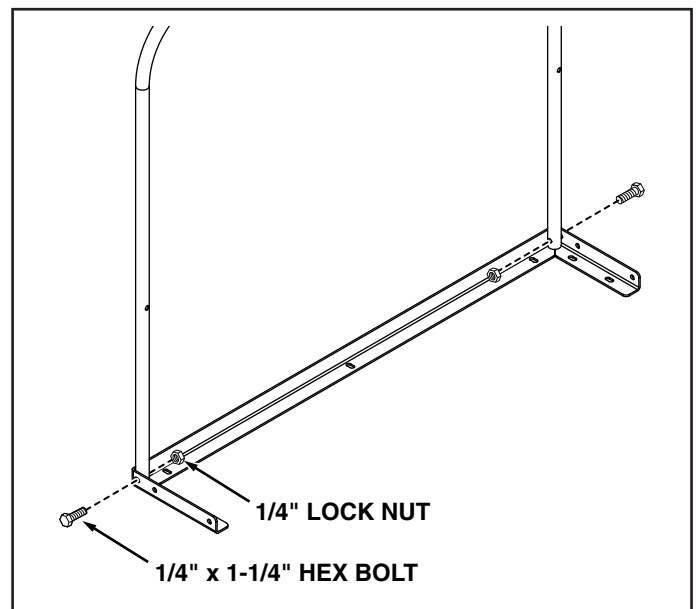

FIGURE 17
- Secure front support tube to top angle support using two 1/4" x 1-1/4" hex bolts and 1/4" lock nuts. **TIGHTEN. Do not over tighten** and collapse support tube. See figure 17.